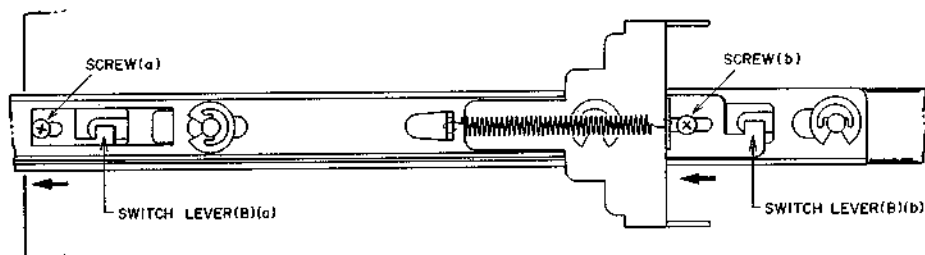

Fig. 10
3. REVERSE SWITCH WORKING POSITION ADJUSTMENT (Refer to Fig. 10)